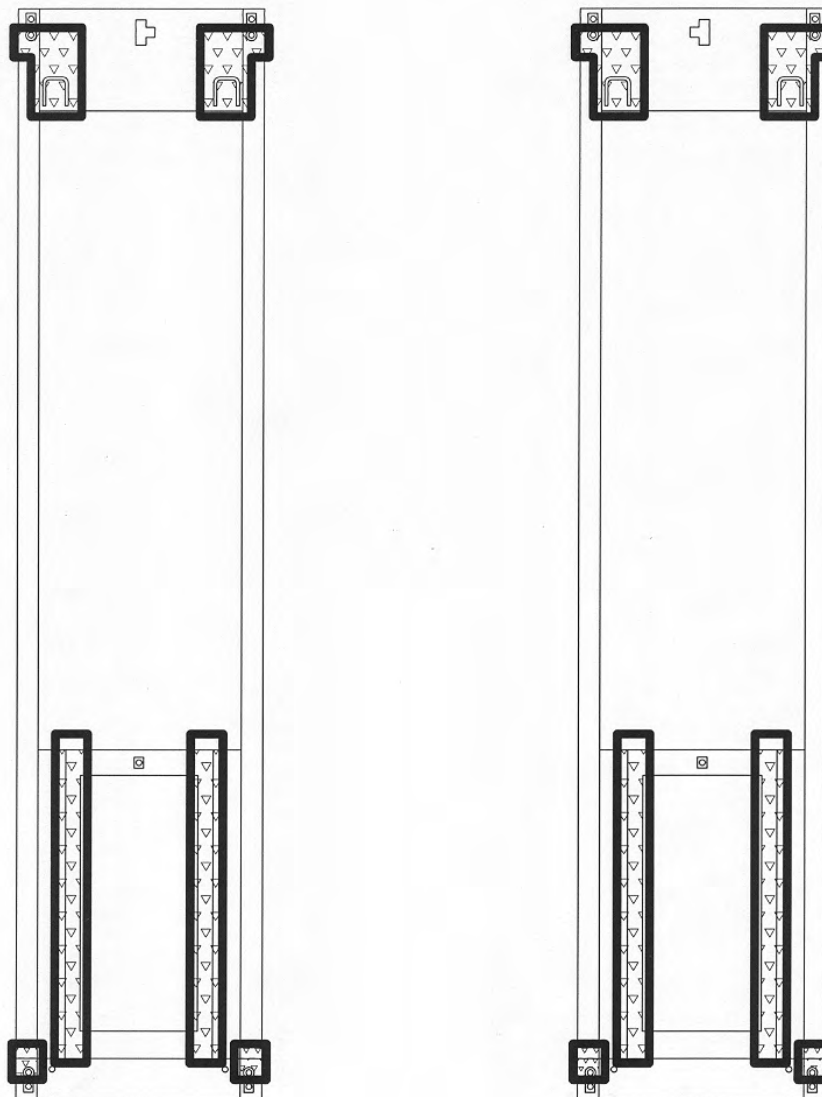

Figure 18 - Shimming
2. Level the baseframes using the 5/8" leveling bolts provided at each of the four (4) corners.
3. Use shims provided to support under glide block area of baseframe and under front hinges. See **Figure 18**.